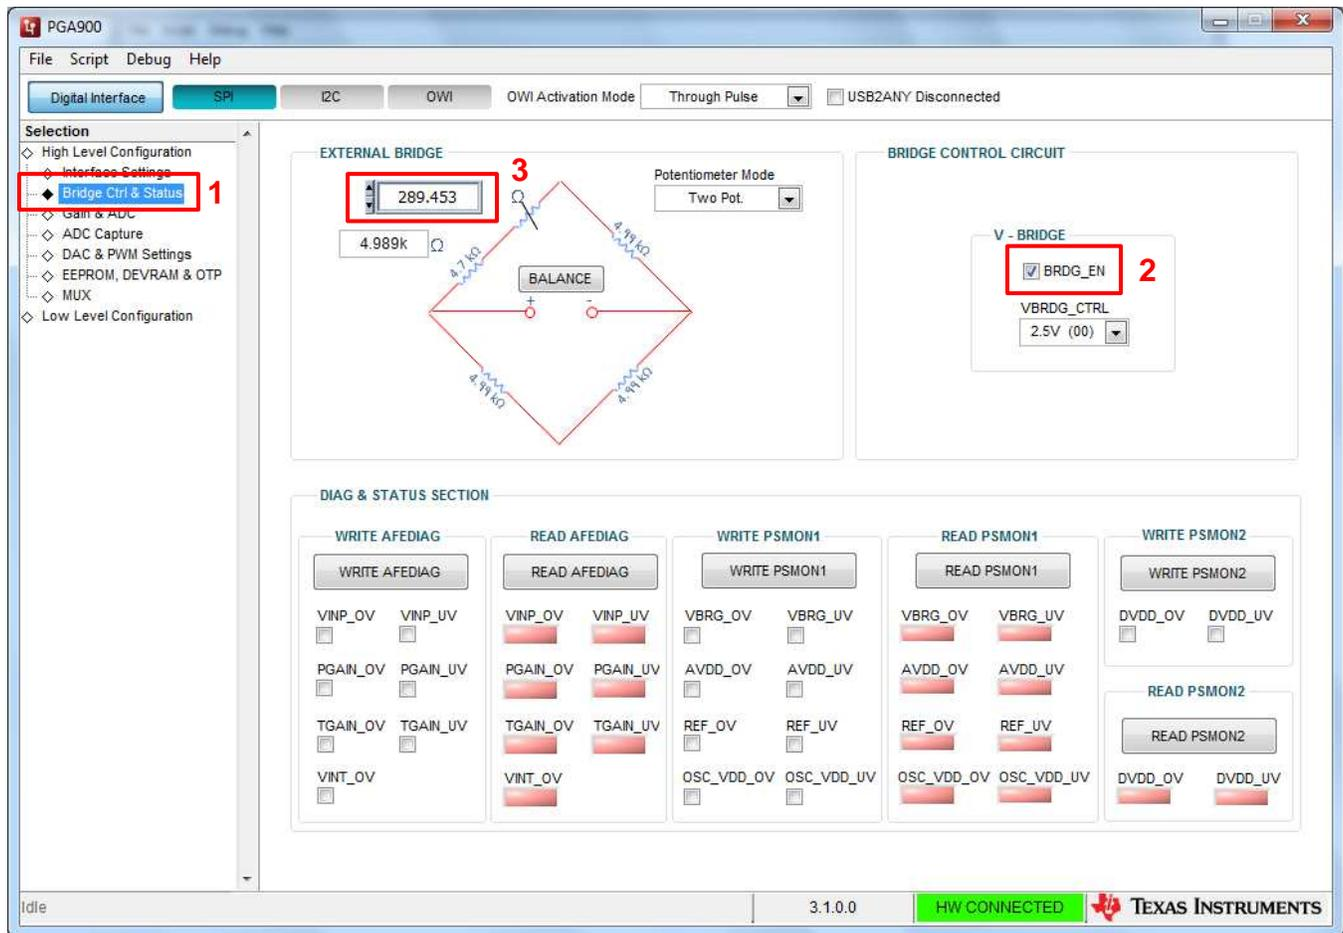

Figure 5. Enabling Bridge Voltage in PGA900 and Configuring Resistive Bridge in PGA900EVM
- Click on the “Bridge Ctrl & Status” tab and enable the bridge voltage as shown in Figure 5. The resistive bridge in the PGA900EVM is now being excited by the 2.5 V coming from the PGA900. The bridge in the PGA900EVM has only variable leg (top left). It consists of a 4.7-kΩ resistor in series with a dual digital potentiometer, where the potentiometers are in a parallel configuration. The user has the ability to change one or both or both potentiometers with the Potentiometer Mode menu. For demo purposes, to obtain a 10-mV differential input voltage use Table 1.